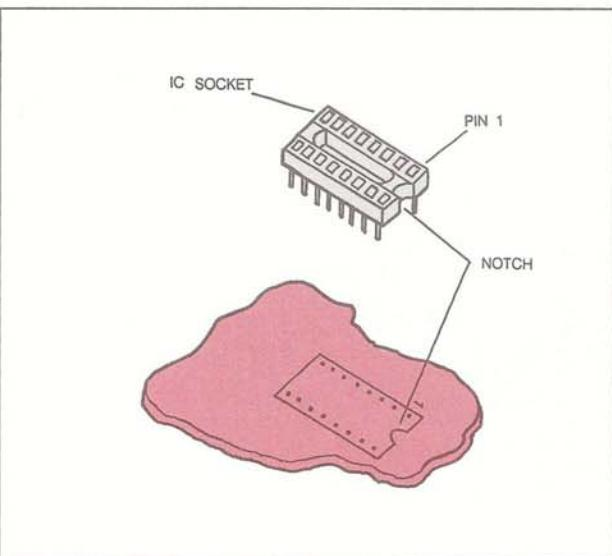

FIG. 58
a. Position the socket over the PC board area marked "U2". Find the #1 pin location (using the SMALL NOTCH technique described earlier for finding pin #1) then align it with the pin "1" marking on the PC board (See Fig. 58).